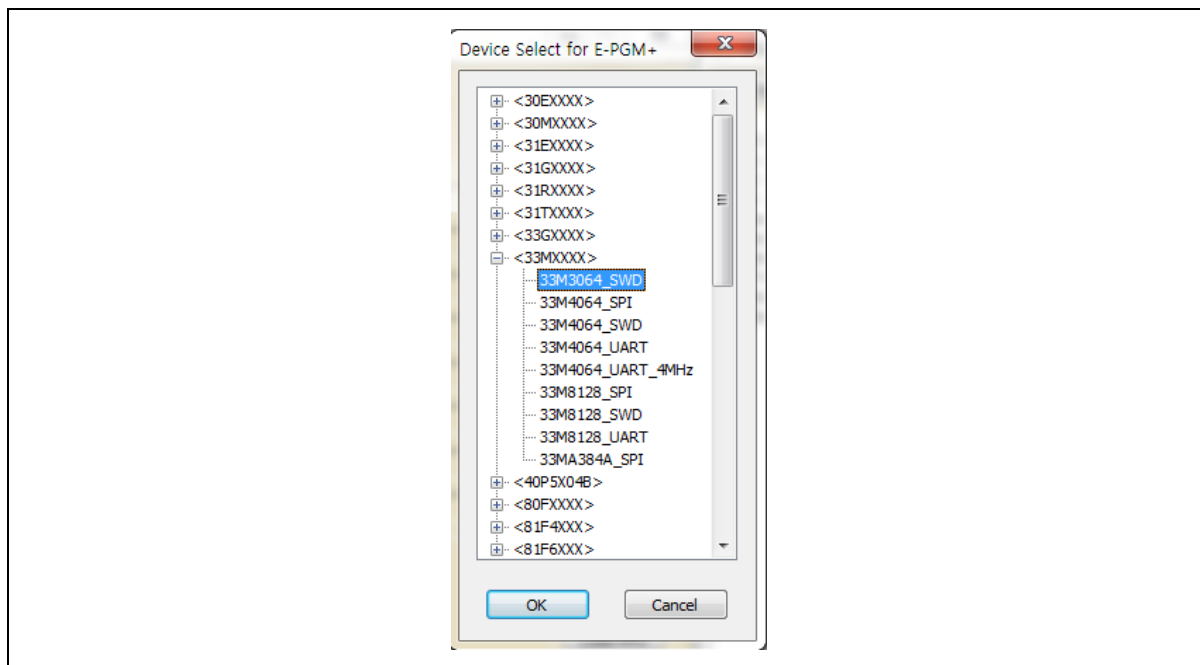

Figure 26. Device Select
- ⑤ The 'Address Range' shows the start and end addresses of ROM when a device is selected. These values are fixed, and cannot be modified by users.
- ⑥ This area displays the checksum. When a hex file is loaded using the 'Load Hex' button, checksum is calculated for data in the hex file to check for errors that may have occurred in the loading process. Checksum is an important element that must be checked in the programming process.
- ⑦ The 'Option' section shows the hexadecimal value of a selected option. Option values must also be checked in the programming process.
- ⑧ The 'Device Select' button is the first button to press after starting programming. When this button is pressed, the list of device categories is displayed as shown in Figure 26. Click + or - to see the specific devices under each category, and select the desired device.